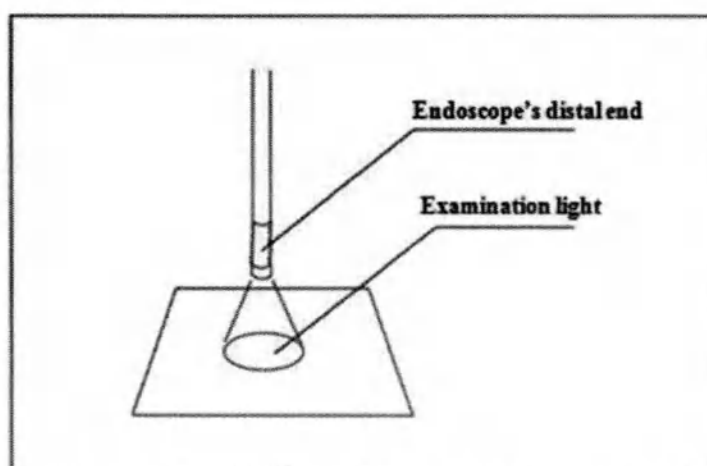

Fig3.12
3.2.5.2 In Figure 3.12, confirm that the LED will glow at the foreend end, and press the dimming button to confirm that the LED brightness changes with the adjustment.